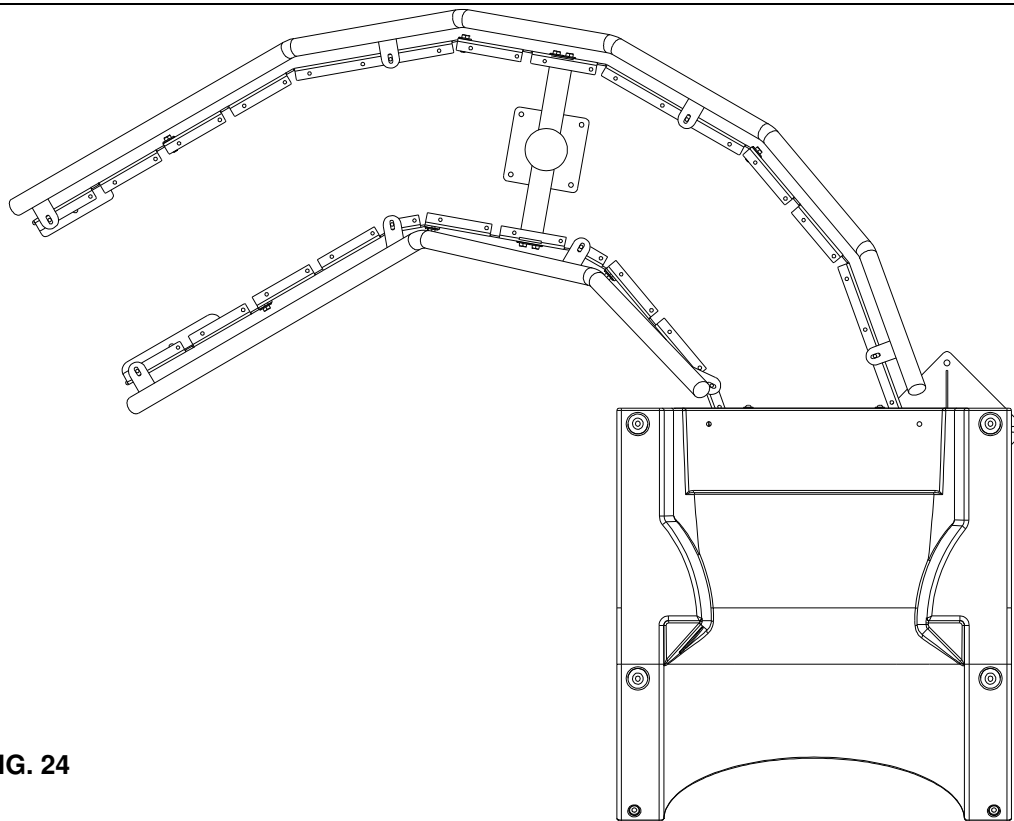

FIG. 24
7) Position the inside and outside handrails in place, as shown in Figure 24. To ensure proper alignment of the assembly, temporarily install hardware through the mounting holes in the handrail brackets and the stair brackets.